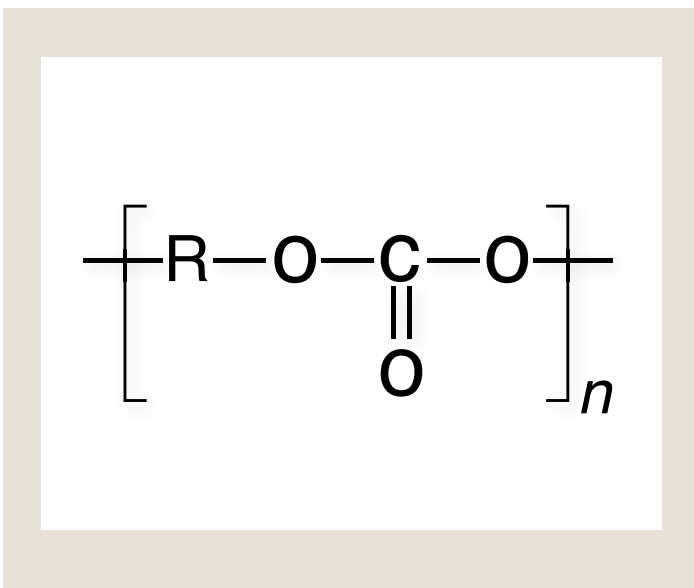

Fig. 7: The chemical structure of polycarbonate (PC)
Polycarbonates are a class of polymers with a carbonate group in their polymer chain, which explains the origin of their name [Fig.7]. The most widely used polycarbonate is made of bisphenol A and phosgene. Polycarbonates (PC) are used in the laboratory for various items including cell culture flasks, laboratory goggles and face shields, insert plates for cell culture, and even membrane filters [26-31].